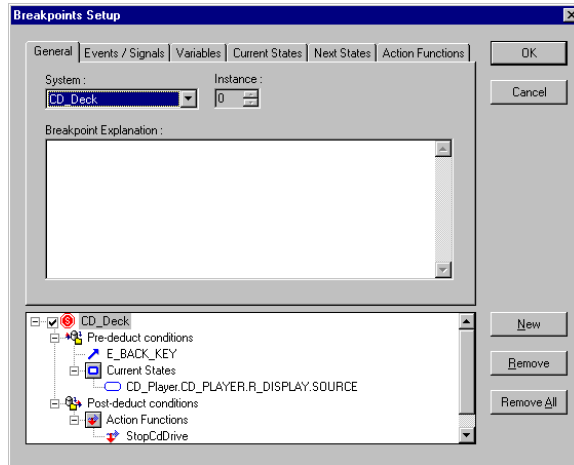

Figure 137: Breakpoints Setup dialog box, General tab (Validator)
- 1 On the Validator menu, choose Edit>Breakpoints. A Breakpoints Setup dialog box will be displayed. See *Figure 137*, page 170.